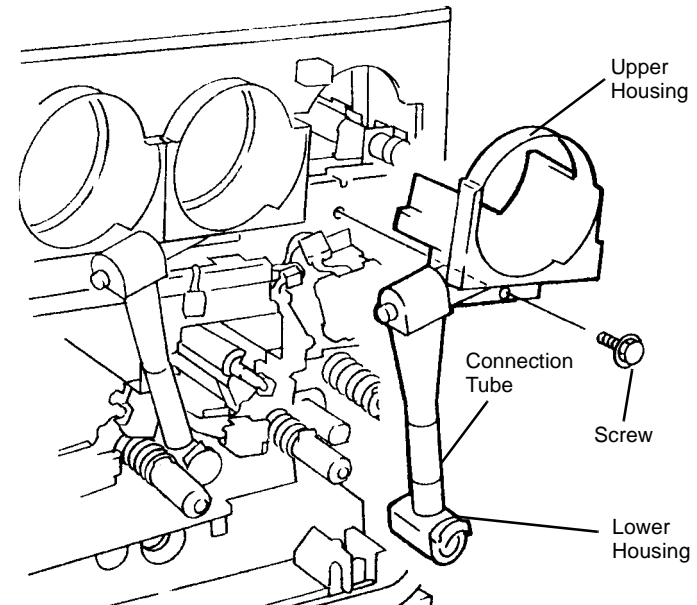

Figure 2 Removing Toner Dispenser
7. Remove Toner Dispenser (Figure 2).